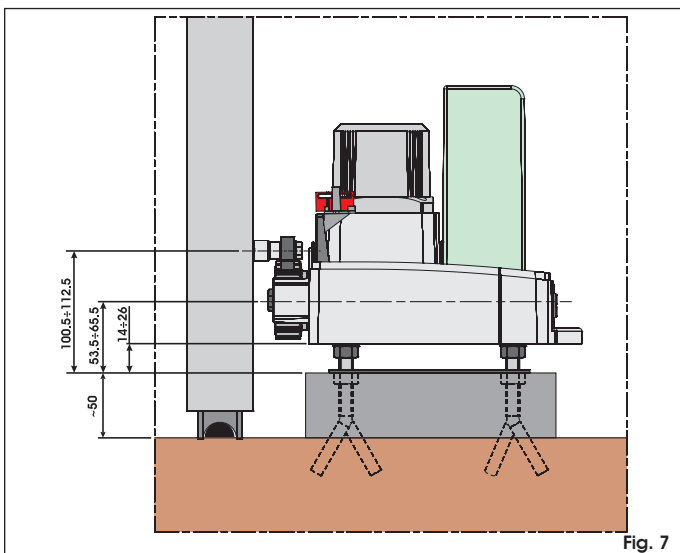
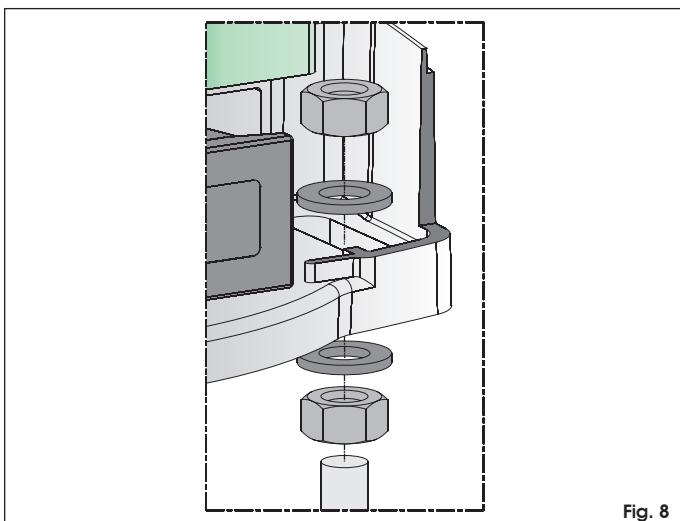

Fig. 7
Fig. 8
We advise you to place the plate on a cement base about 50 cm off the ground (fig.7).
7. Secure the operator on the foundation plate, using the supplied screws and washers as shown in Fig. 8. The operator's position is shown in Fig. 7. When positioning the operator, route the electrical cables through the hole on the base of the gearmotor body.